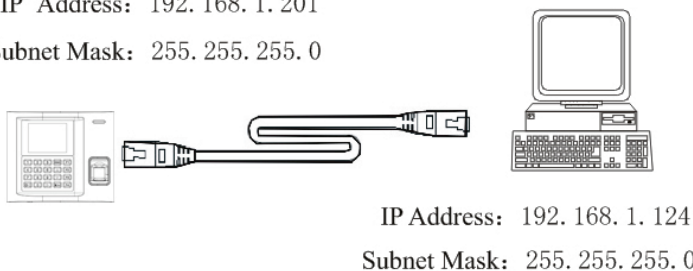

Figure 3-1
1. Connects with PC through cross cable, as the figure 3-1.